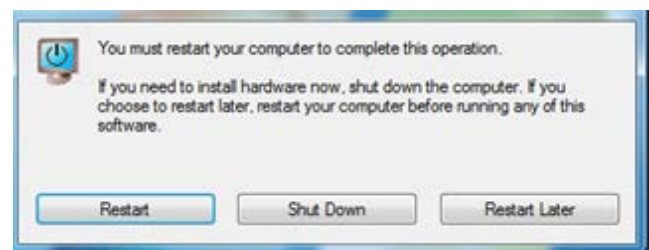

Figure 14. Restarting Your Computer
5. Before using the evaluation board, restart the computer (see Figure 14).